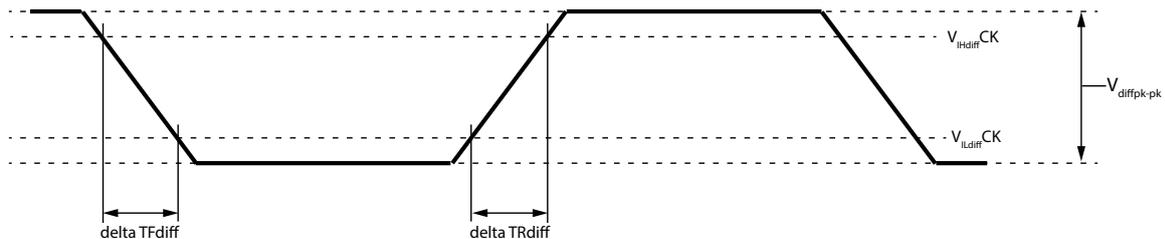

Figure 227 — Differential Input Slew Rate Definition for CK_t, CK_c
1. V_{diffpk-pk} defined in **Figure 227**